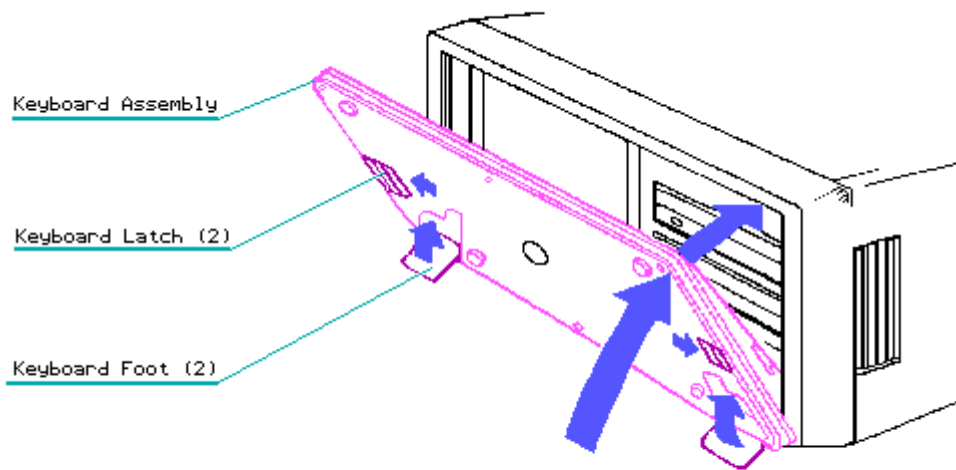

Figure 7-1. Closing and Locking the Keyboard
2. Close the keyboard and secure it by sliding the latches to the LOCK position (Figure 7-1) and folding the keyboard feet in place.